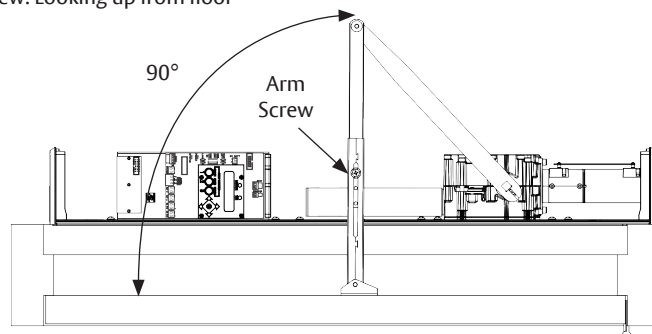

Figure 13 View: Looking up from floor
3. With door fully closed, rotate main arm toward latch edge of door until arm tube is at 90° angle (perpendicular) to door. (Figure 13)
4. Use arm screw provided with main arm to secure rod to tube. (Figure 13)